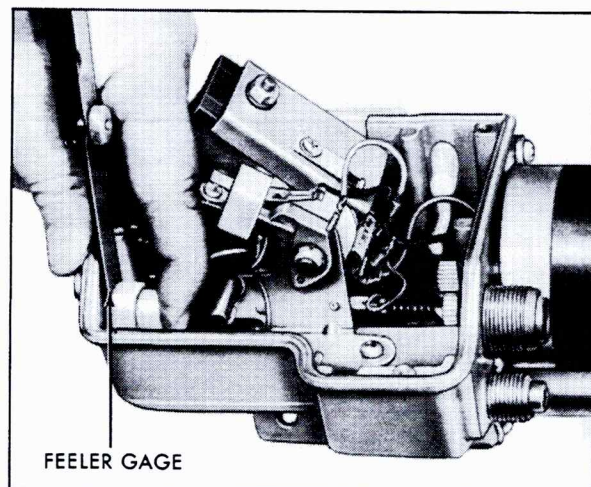

Fig. 15-23 Compressor Rod Adjustment
7. Using a feeler gage, position compressor rod plastic cap with same gap between housing and cap as during removal and screw adjustable coupling on rod until same gap is obtained, Fig. 15-23.